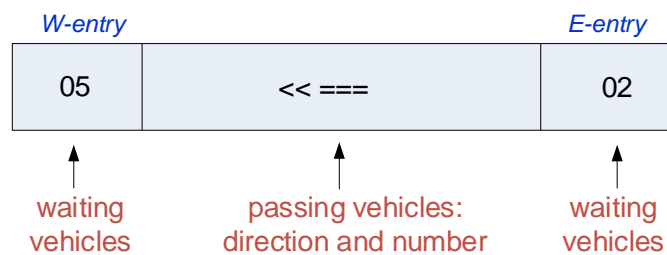

Figure 2
- The LED bar acts as the traffic lights for both ends of the traffic. Each traffic light is represented by a pair of LEDs. When they are on (representing green light), vehicles on that end can enter the road; otherwise (red light) vehicles are blocked. During an emergency, both LED pairs are off and the middle 2 LEDs will flash. An example is given in Figure 2(a), where the traffic light on the east end entry is on and on the west end is off, and the middle two LEDs for emergency should be off.
An example is given in Figure 2(b), where two vehicles are queuing at the east end and five vehicles at the west end, and three westbound vehicles are moving on the road. Here we assume two decimal digits are sufficient for the queue size.